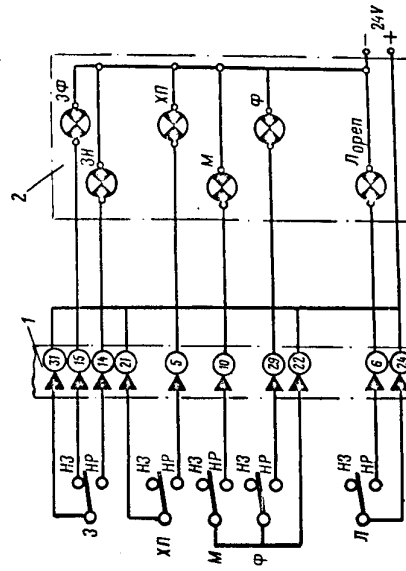

Fig.14. Checking Operation of Control Panel IV-3, Diagram
1. Detach the component part from the main plug connector of the engine and connect the plug of the special device to the main plug connector (according to the Diagram presented in Fig.14).
With the device energized and the engine control lever in the CUT-OFF (CTON) position, lamps 30 and 1 of the device should burn (when the compressor air blow-off ports are open, see Fig. 14). If the compressor air blow-off ports are closed, lamp 1 of the device should not burn.